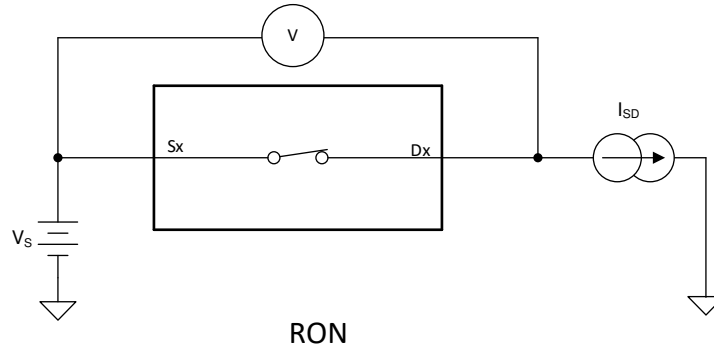

图 6-1. On-Resistance
The on-resistance of a device is the ohmic resistance between the source (Sx) and drain (D) pins of the device. The on-resistance varies with input voltage and supply voltage. The symbol  $R_{ON}$  is used to denote on-resistance. 图 6-1 shows the measurement setup used to measure  $R_{ON}$ . Voltage (V) and current ( $I_{SD}$ ) are measured using the following setup, where  $R_{ON}$  is computed as  $R_{ON} = V / I_{SD}$ :